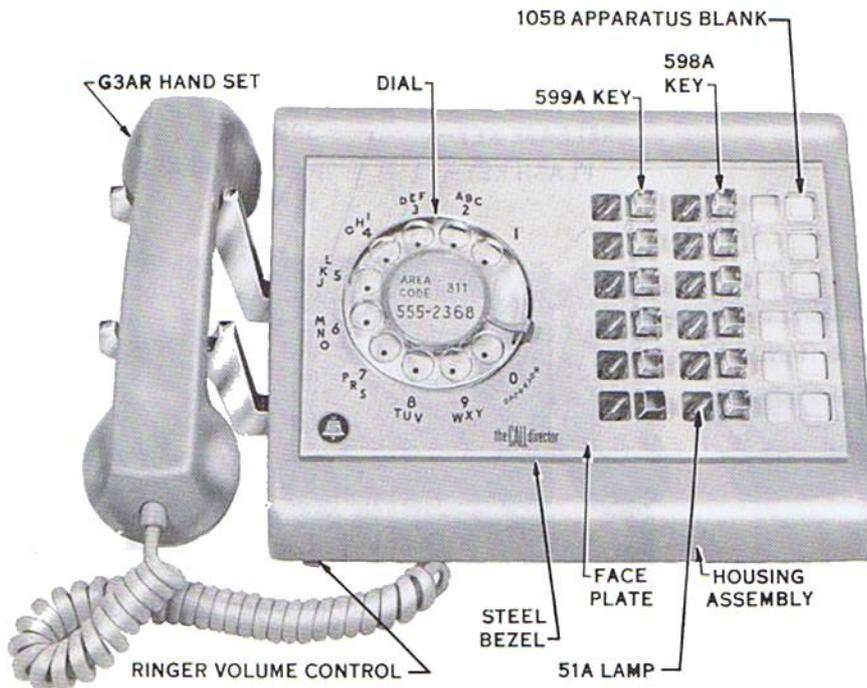

Fig. 3 — 630-Type Telephone Set
- (2) Limited use (Fig. 3 and 4).